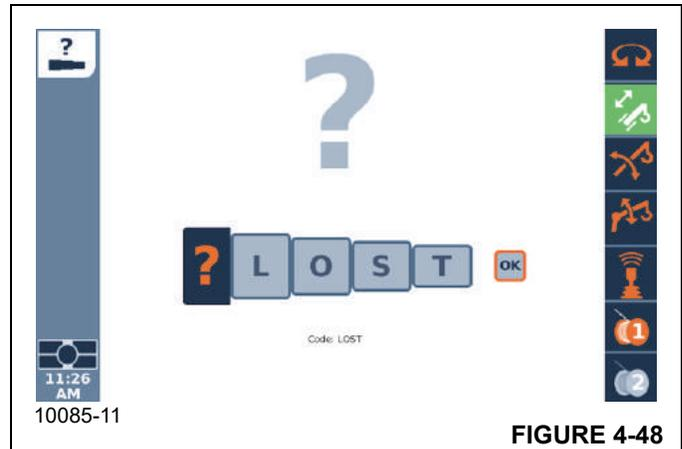
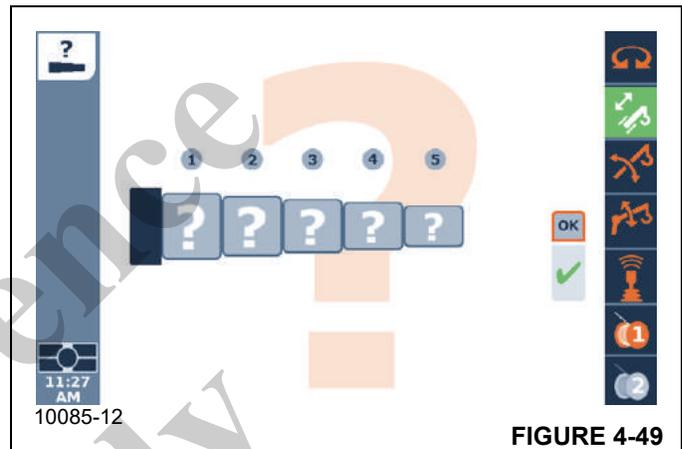

FIGURE 4-48
FIGURE 4-49
The request reset telescoping screen appears as shown in Figure 4-48. This screen is for entering a confirmation code. The confirmation code is L-O-S-T. When these letters are entered on the screen, then an Enter button can be used on the OK shown on the screen. If this is the correct code, then the reset telescoping screen appears as shown in Figure 4-49.
- In the reset telescoping screen, as shown in Figure 4-49, the operator can indicate the current boom configuration (“actual tele picture”). It is seen that there are 5 available boxes (for the 5 telescoping boom sections). Each of these spin boxes can be used to change to one of the following: